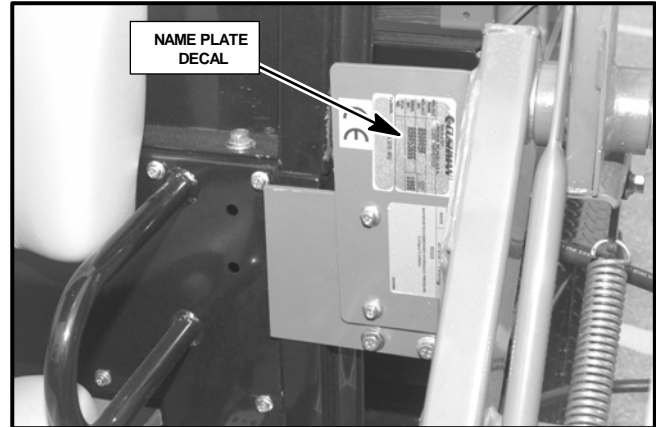
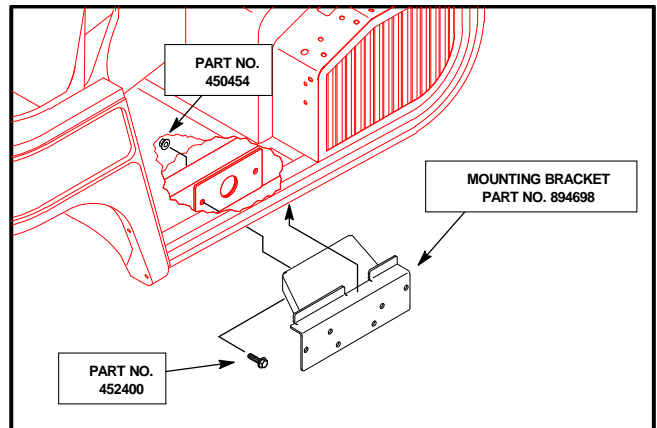

Figure 1
Figure 7
The part number and serial number of the accessory are printed on the name plate decal located on the main frame (See Fig. 1).
1. Install the black Mount Bracket (Part No. 894698) to the existing holes in the vehicle frame as shown in Figure 1. Secure using two (2) M10-1.50 x 30 screws (Part No. 452400) and two (2) M10-1.50 nuts (Part No. 450454) (See Fig. 7 & 8).